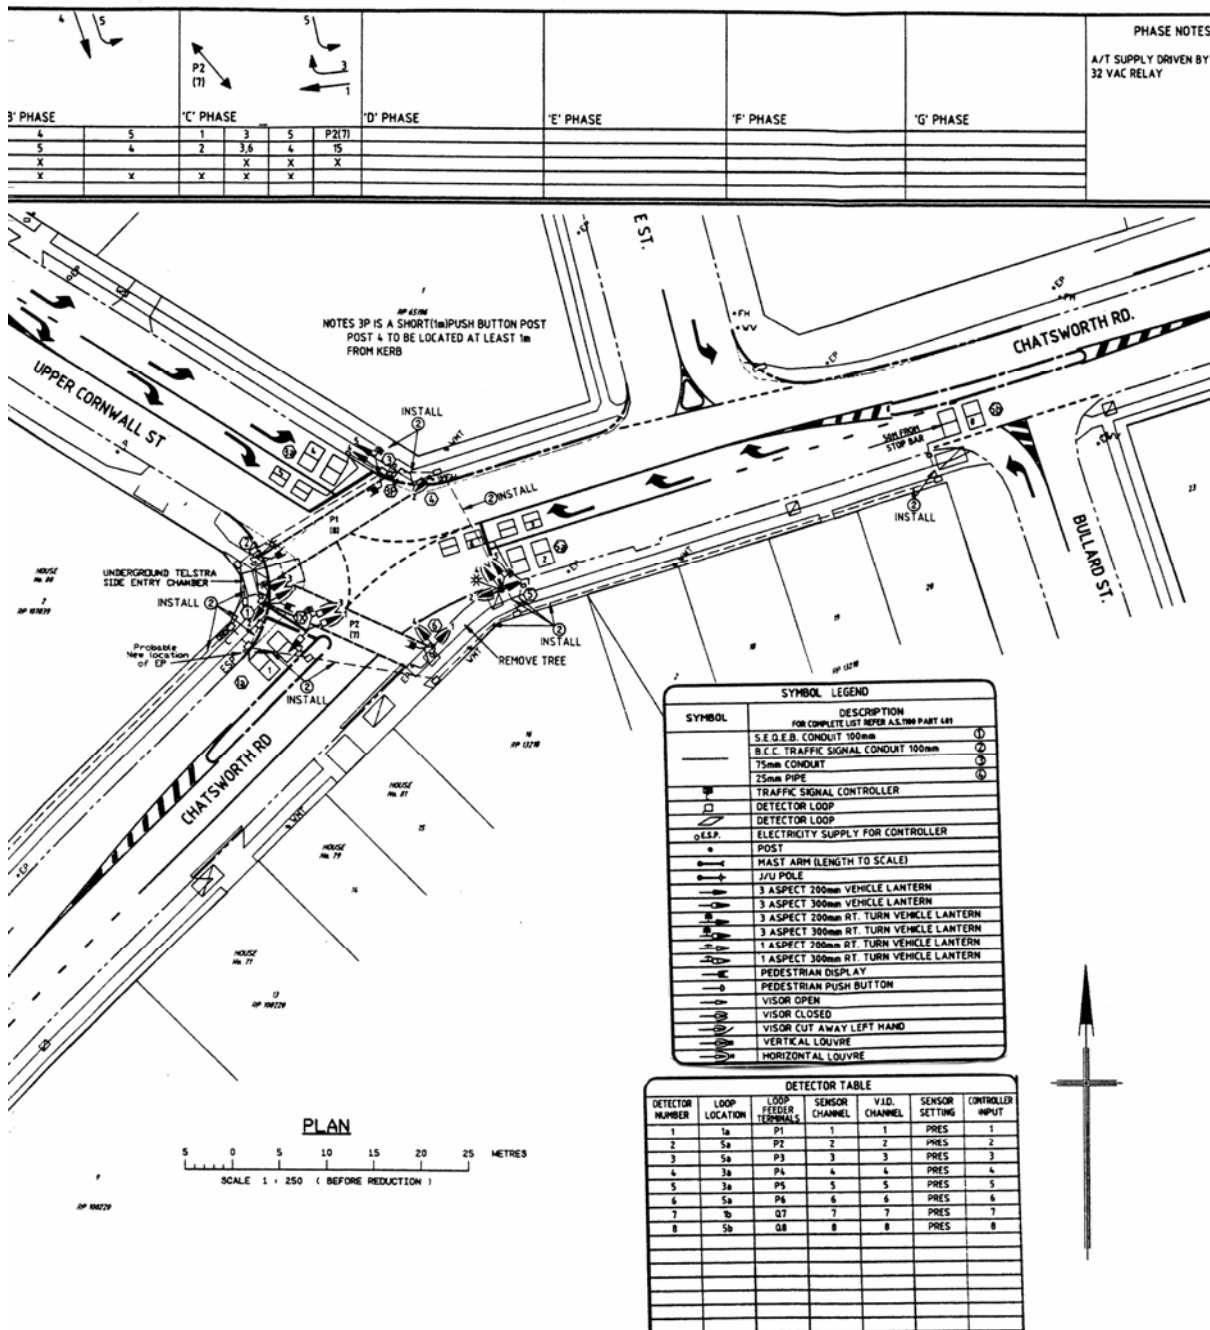

FIGURE E2.6.2
6. Traffic signals. Refer typical example given in Figure E2.6.2.